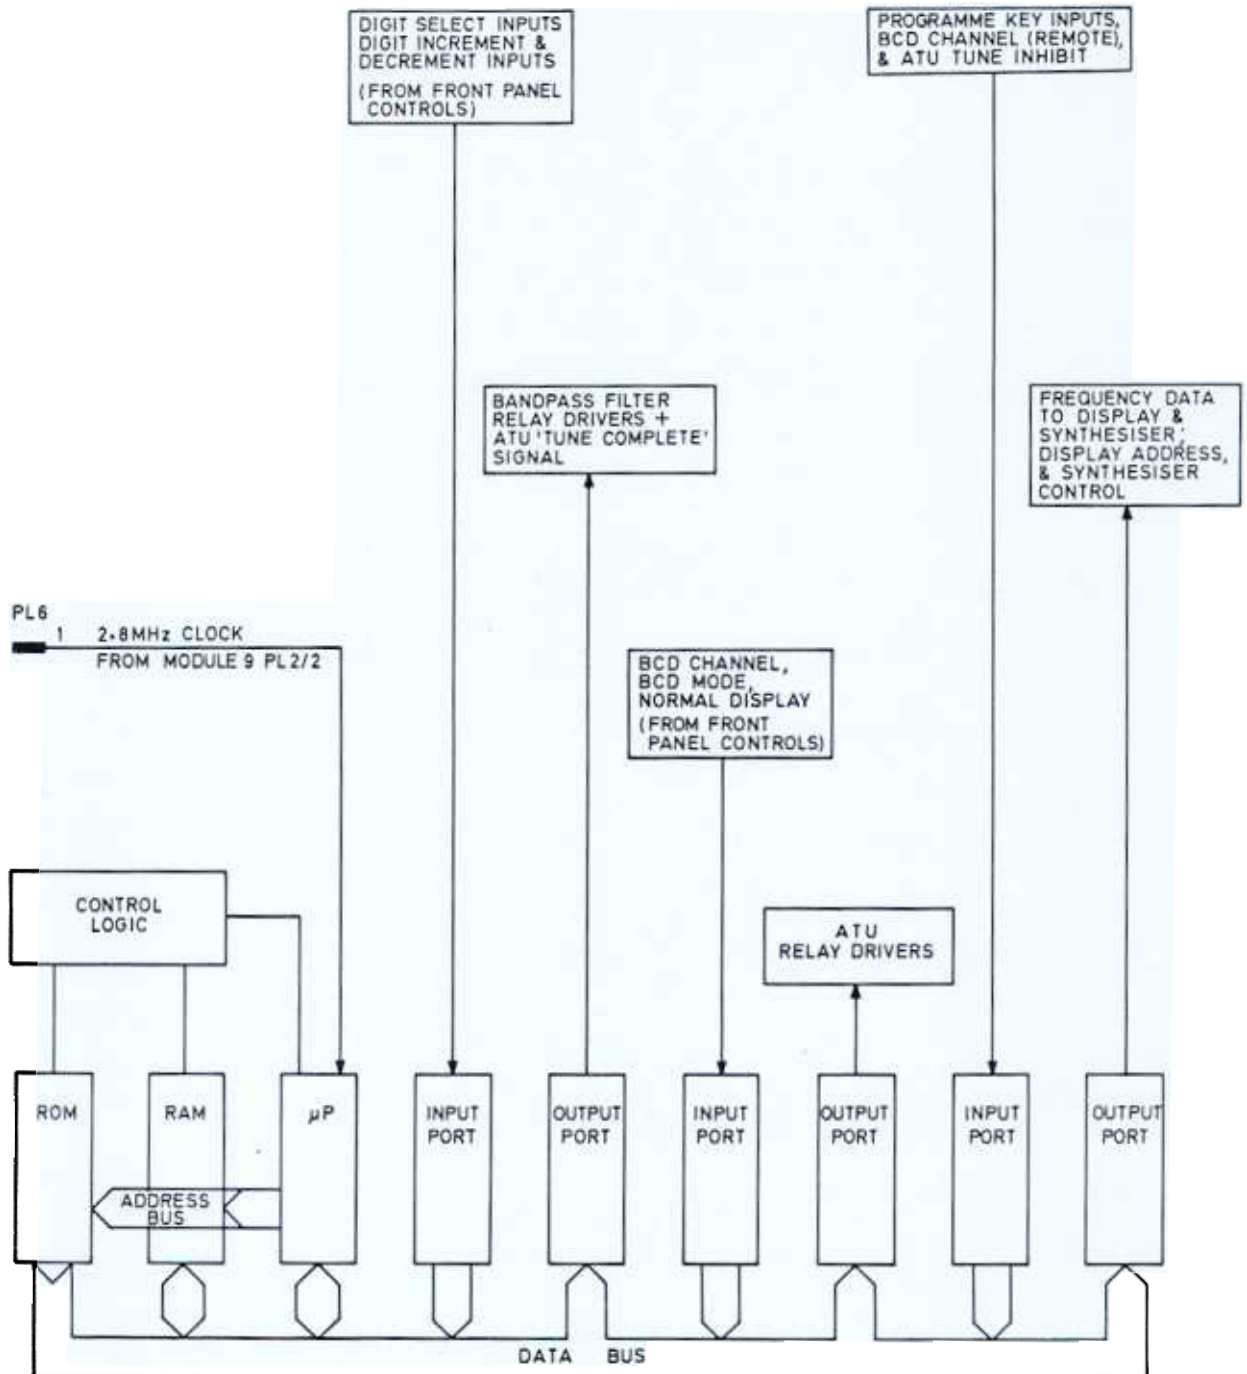

Fig 6 Microprocessor (module 5) - simplified block diagram
27. A simplified block diagram of the microprocessor is given in Fig.6. The module consists of a single pcb circuit which utilizes a CMOS microprocessor with 128 x 8-bits of RAM, and 2048 x 8-bits of ROM, to (a) monitor the inputs from the front panel controls of the radio through three CMOS input ports, and (b) control the ATU, Bandpass Filter, Synthesiser and Display Modules of the radio through its three CMOS output ports.